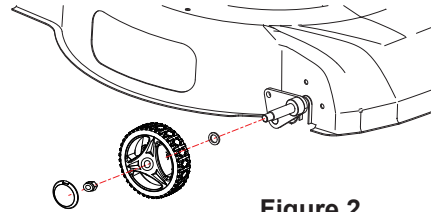

Figure 2
2. Attaching Wheels (See Figure 2)